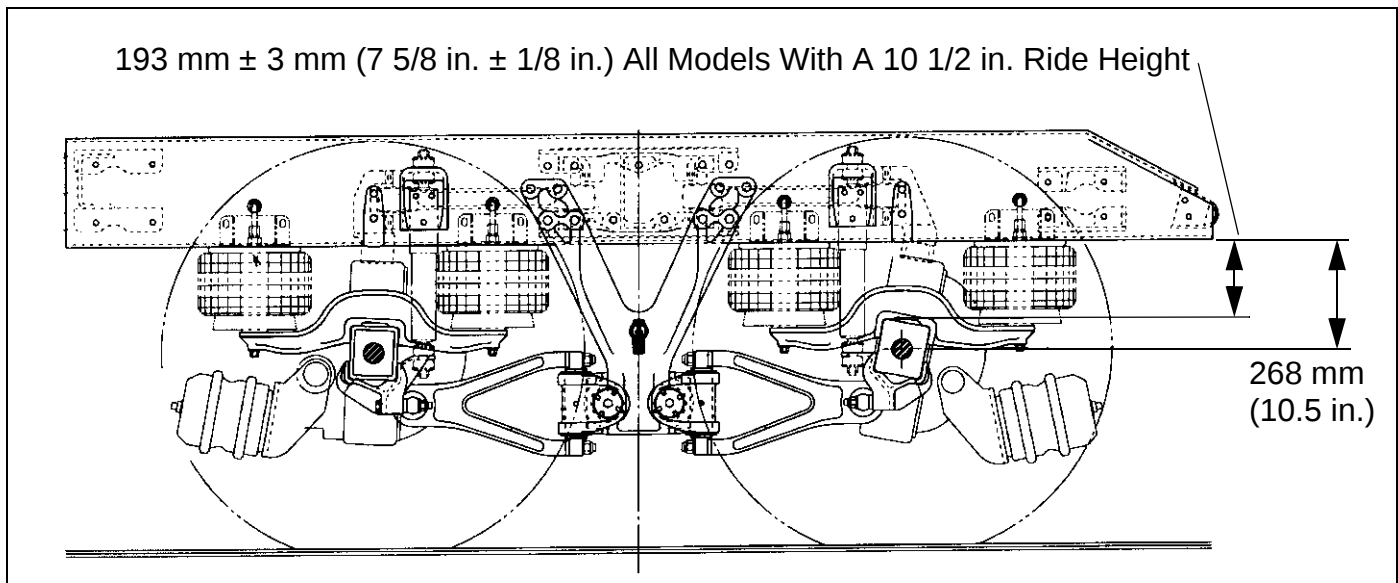

Figure 17-8 For 10 1/2 in. Ride Height
- All Models With a 10 1/2 in. Ride Height: 193 mm $\pm$ 3 mm (7 5/8 in. $\pm$ 1/8 in.). See Figure 17-8